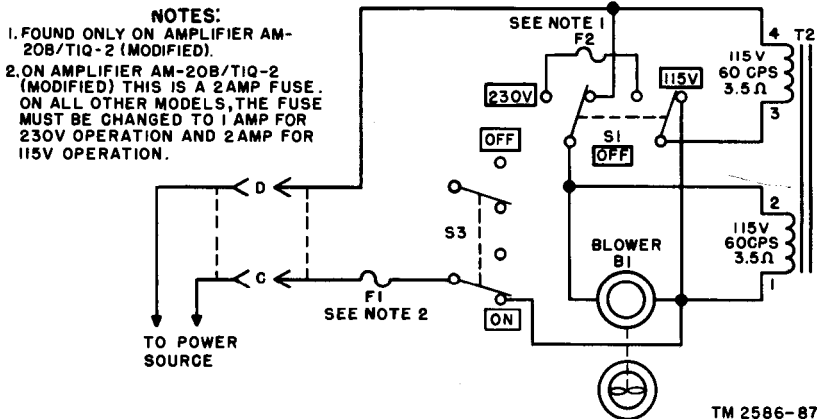

Figure 40. Amplifier power supply, input circuit.
a. *Input Circuit* (fig. 40). The amplifier may operate from a 115-volt source, or a 230-volt source. On the AM-20B/TIQ-2 (modified), there is a 1-ampere fuse for 230-volt operation, and a 2-ampere fuse for a 115-volt operation. On the AM-20/TIQ-2, AM-20A/TIQ-2, and AM-20B/TIQ-2, there is only one fuse holder. The fuse in the fuse holder must be changed when the power source is changed. Use a 1-ampere fuse for 230-volt operation and a 2-ampere fuse for 115-volt operation.
- (1) *115-Volt operation.* When 115 volts is the source of power, switch S1 should be in the 115 position. This places both windings of the primary transformer T2 in parallel. When switch S3 is operated to its ON position, a circuit is complete as follows: Current flows from one terminal of the ac source, through the power cord, into pin D of the
- (2) 230-volt operation. When switch S1 is in the 230 position, the two windings of the primary of transformer T2 are in series. When switch S3 is operated to its ON position, a circuit is completed as follows: Current flows from the ac source through one conductor of the power cord to pin D of the power cord connector. From pin D, the current flows through the 4-3 winding of the primary of the transformer, through one contact of switch S1 through fuse F2 (on AM-20B/TIQ-2 (modified) only) through the other contact of switch S1 through the 2-1 winding of the primary, one contact of switch S3, the fuse F1, through pin C of the power cord connector, through the other conductor of the power cord, to the other contact of the power source.
*b. Blower* (fig. 40). Blower motor B1 is connected in parallel with the 1-2 winding of the power transformer. When power is connected to the 1-2 winding of the transformer, power is also connected to blower motor B1. On Amplifier AM-20/TIQ-2 and AM-20A/TIQ-2, the blower motor has a starting winding through capacitor C22 and the red lead, through the motor winding to the yellow lead (fig. 63).